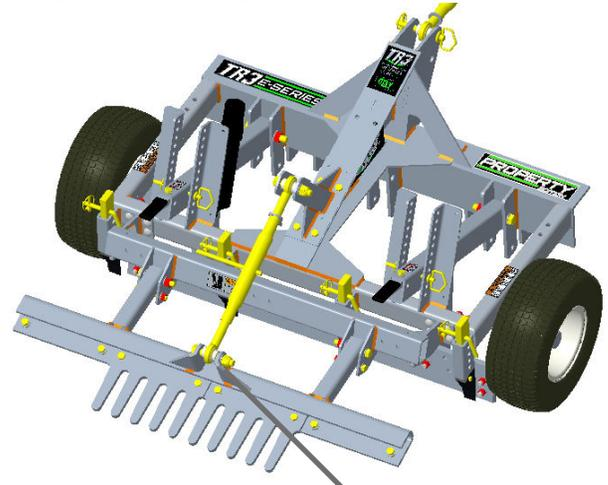
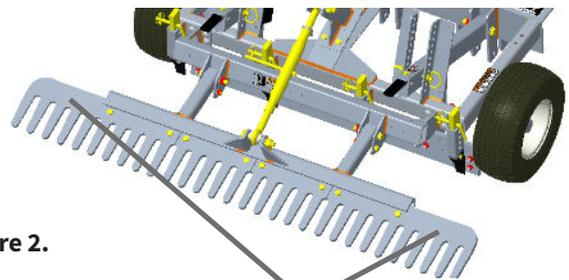

Figure 1.
Figure 2.
1. Remove bolt (1-1/8" Hex) that secures the Toplink to the Rake attachment from Rake attachment mounting bracket. Position Toplink end to line up with Rake attachment brackets holes and slide bolt through brackets and Toplink and tighten nut (see **Figure 1**).
2. For Units that are shipped with outer Rake sections removed (as shown in **Figure 1**), remove bolts and nuts (3/4" Hex) from Rake support bracket. Set End Rake sections on Rake support bracket and re-insert bolts and nuts and tighten (see **Figure 2**). Bent ends of Rake Sections are to be angled upwards (see **Figure 3 and 3A**).